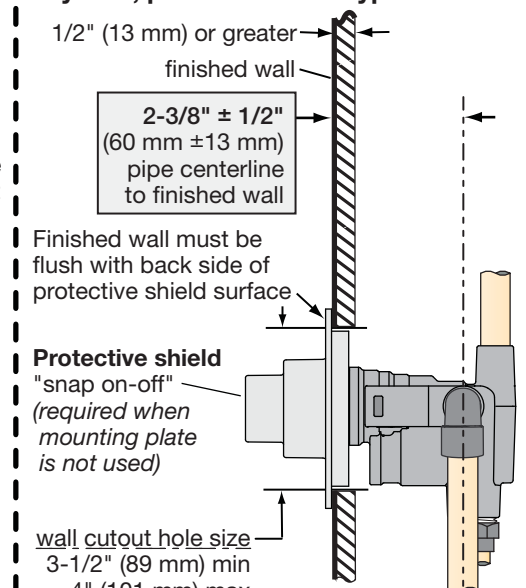

Figure 2 Mounting valve
- Consider whether to use mounting plate by reviewing figure 2 below.
- Reference figure 2 to determine whether shield is required.
Install through cutout hole in wall as specified in figure 2 below and dimension illustration on page 4.
* **Notes:** (also reference page 2, figure 2 for details)
- (1) Walls for using T-177 mounting plate (MP)
- (2) Dry wall, plaster or other type walls 1/2" or greater
- (3) Dimensions subject to change without notice